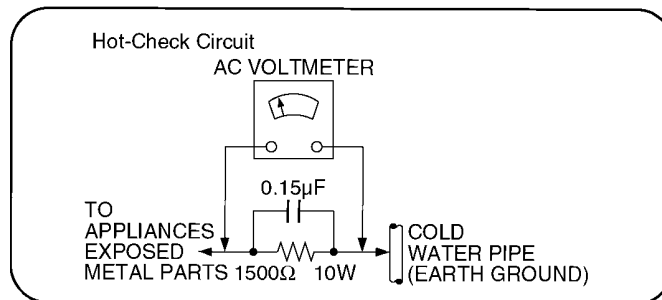

Figure 1
1.1.2. LEAKAGE CURRENT HOT CHECK (See Figure 1.)
2. Connect a $1.5k\Omega$, 10 watts resistor, in parallel with a $0.15\mu\text{F}$ capacitors, between each exposed metallic part on the set and a good earth ground such as a water pipe, as shown in Figure 1.